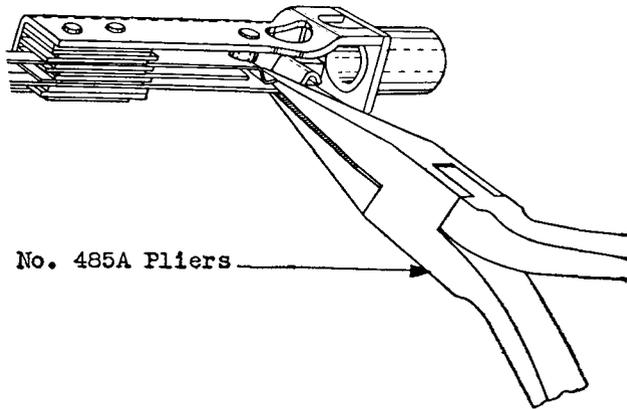

Fig. 5—Method of Adjusting for Contact Separation or to Correct for Butt
bly screws with the 4-inch regular screwdriver or the No. 544A socket wrench until the springs can be adjusted, or if necessary, remove the spring assembly and adjust the springs. See (2). If the assembly is removed, wipe off the parts with the KS-2423 cloth. Adjust tip or ring springs for contact separation or to correct for butt with the No. 485A pliers applied to the front of the spring just behind the crook in the spring as shown in Fig. 5. Adjust contact springs for contact separation or contact follow at the rear of the spring where it leaves the insulators.